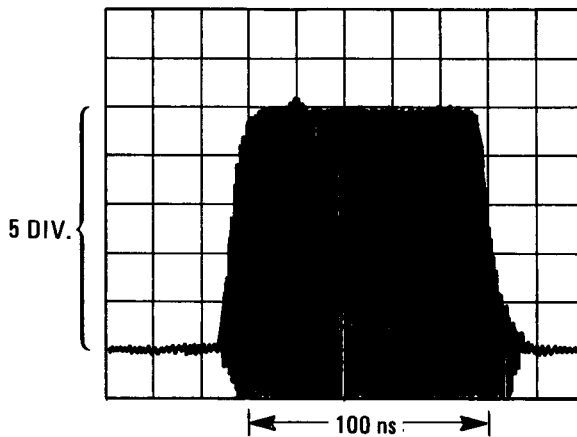

Figure 4-28. Pulse Rise/Fall Time and Overshoot Waveform
5. Adjust the oscilloscope to center the pulse waveform. Adjust the vertical controls for a 5 division peak pulse display. See Figure 4-28.